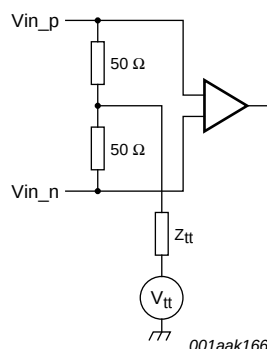

Fig 4. Lane input termination
- [5] Vin_p and Vin_n inputs are differential CML inputs. They are terminated internally to V_{tt} via $50 \text{ } \Omega$ (see Figure 4).